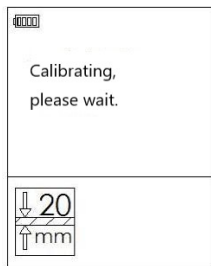
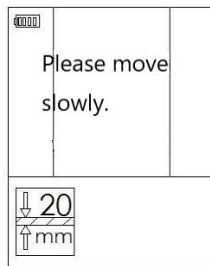

Figure 7
Figure 8
- 1) Press the wood button to enter the foreign body detection mode (as shown in Figure 7), and speaker will indicate the current detection mode (mute if the sound is turned off).
- 2) When detecting foreign bodies, the instrument must be vertically attached to the wall and then press the button to detect. Keep the instrument stay for 1-3s and the instrument calibration will be completed (as shown in Figure 7 and Figure 8) before conducting the detection operation. Place the sensor on the surface of object and move it evenly and slowly in the same direction to the left or right, without lifting or applying additional pressure.